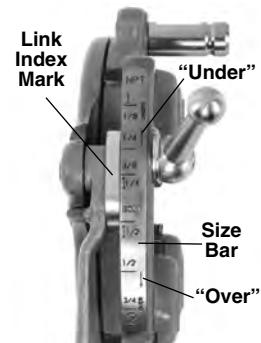

Figure 6 – Adjusting Thread Size
3. Start with link index mark aligned with desired size mark on size bar. On Mono and Bolt die heads, set link mark at line in size bar. For bolt threads with Universal die head, set all bolt dies at BOLT line on size bar (Figure 6).